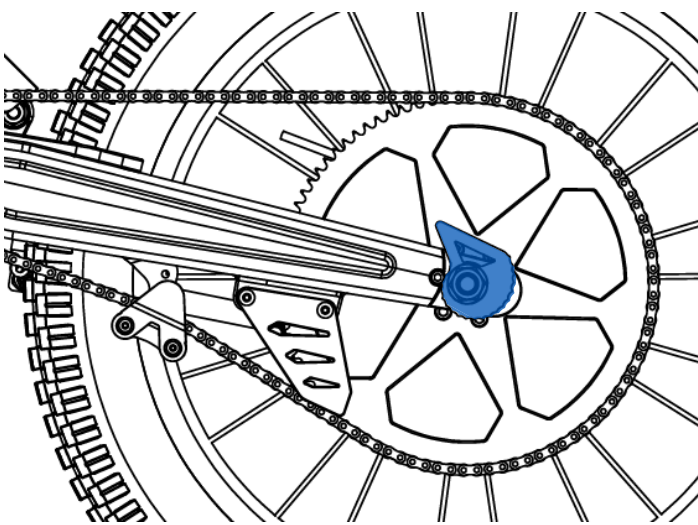

Fig. 17a
- 3- Turn the eccentric adjuster (Figure 17a), to a position depending on the chain slack, and obtain the correct tension. Make sure that the stop is located between the teeth of the eccentric adjuster and the two sides equally. These components must be placed in the correct position according to the required tension level.
When the chain tension reaches half of the allowed travel, it is necessary to turn the eccentric completely to adjust its position. Figure 17a shows the configuration corresponding to the minimum position of the wheel, which must be maintained until half of the travel is reached.